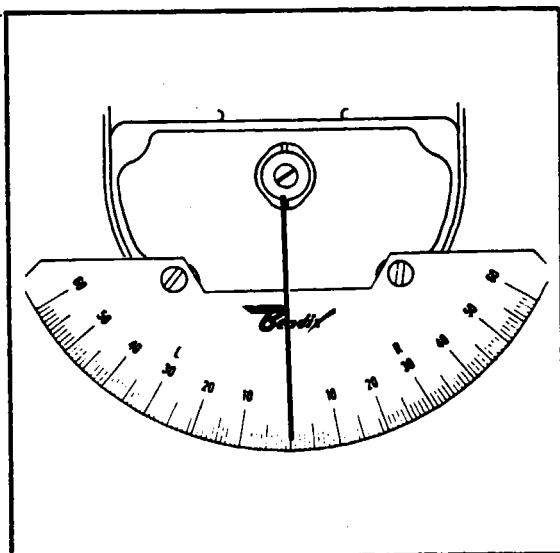

Figure 8-17. Timing Kit Installed
- (a) Using two 8-32 RH screws 1/4 inch long, secure timing template to bottom of breaker housing. (Refer to Figure 8-17.)